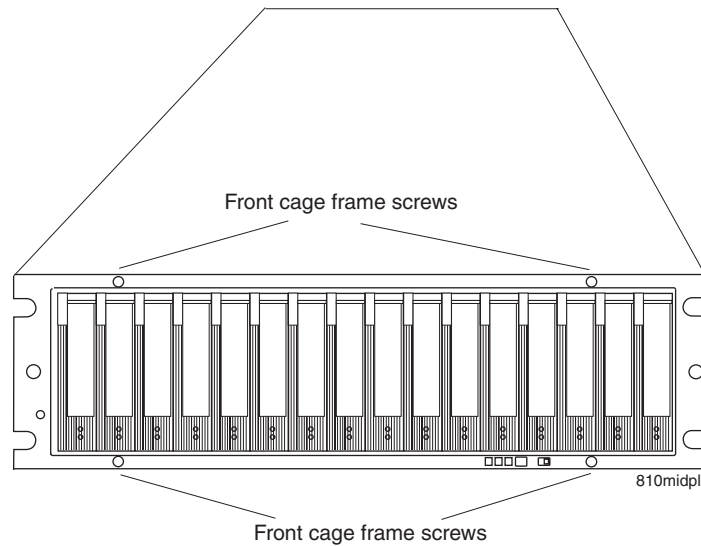

Figure 39. Front cage frame screw locations
10. Use a #1 Phillips screwdriver to loosen the four front cage frame screws on the midplane, as shown in Figure 39 on page 89.
17. Tighten the four front cage frame screws. See Figure 39 on page 89.